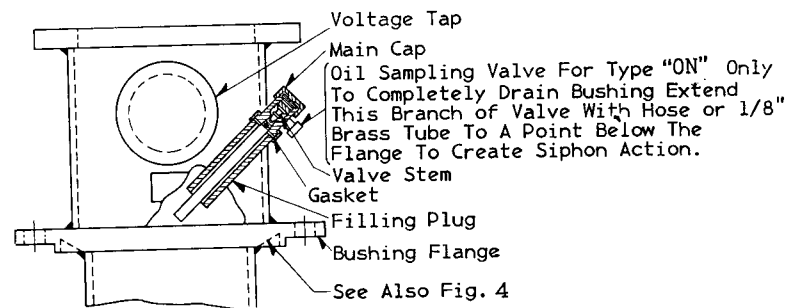

FIG. 2
21. To remove a sample of oil, the cap on the flange sampling valve should be removed and the valve stem backed off one turn (see Fig. 2). The oil will come out of the opening covered with the knurled cap.
29. The flanges for the type "N" and "ON" bushing are the same in structure except an oil sampling valve is added to the flange on the type "ON" condenser bushing (See Fig. 2).